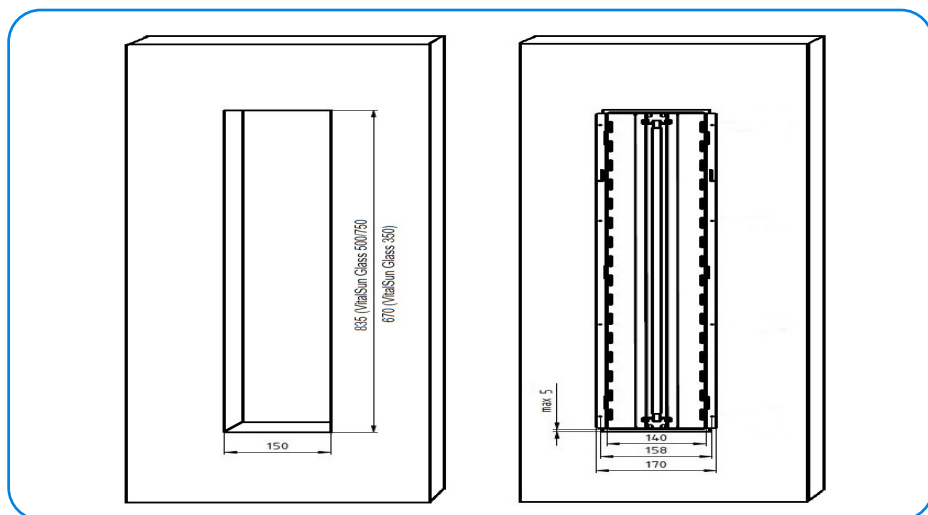

Fig. 3.2 Installation hole for the VitalSun Glass 350/500/750 series of infrared heaters
In order to install the device in the wall, it is necessary to make an appropriately sized hole (Fig. 3.2) and maintain the distance between adjacent elements.
- Place the heater in the wall opening and run the connection cable to the controller's power module. Use the dimensions according to Fig. 3.2 (the device position marking is located on the back of the radiator housing)